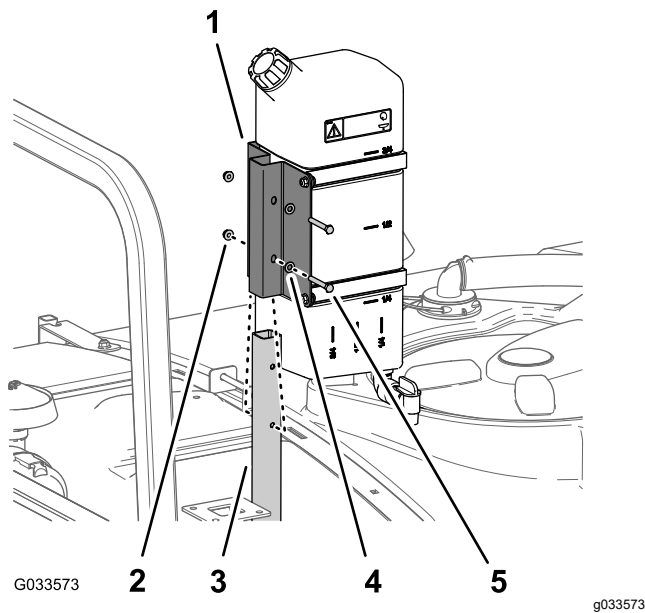

Figure 45
- 1. Assemble the freshwater tank and mount onto the support tube with the 2 bolts (5/16 x 2-1/4 inches) and 2 flange locknuts (5/16 inch) as shown in Figure 45.